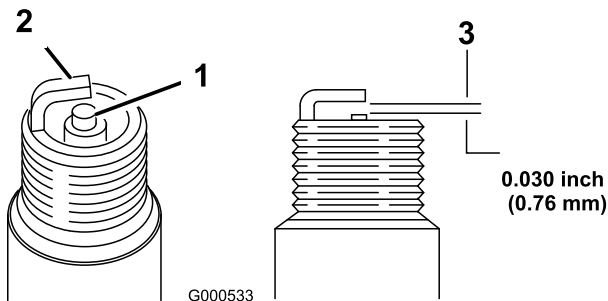

Figure 23
1. Look at the center of the spark plug (Figure 23). If you see light brown or gray on the insulator, the engine is operating properly. A black coating on the insulator usually means the air cleaner is dirty.
2. Check the gap between the center and side electrodes (Figure 23). Bend the side electrode if the gap is not correct.